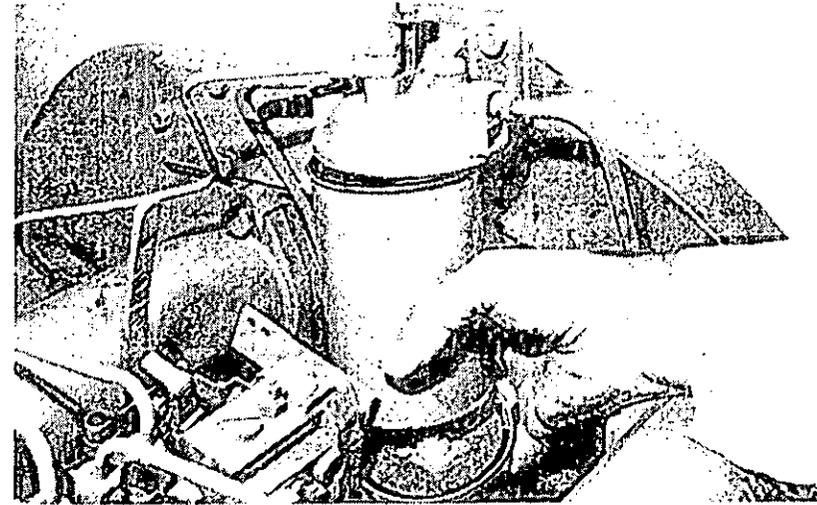

Fig. 15 Single fuel filter element removal
- 2 Hold the filter bowls and release the setscrews that are fitted in the filter head above the centre of each filter element. Remove the filter elements and bowls (see fig. 15 or 16).